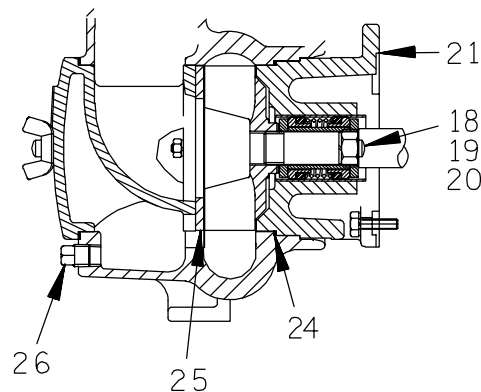

Figure C--3. Pump Model 13D
See Figure C--3 and lubricate the intermediate O-ring (24) with light oil and install it on the intermediate. Slide the pump casing over the intermediate until the casing bottoms against the locating shoulder on the intermediate. **Be careful** not to damage the O-ring when installing the pump casing. Secure the casing to the intermediate with the previously removed hardware (19 and 20).